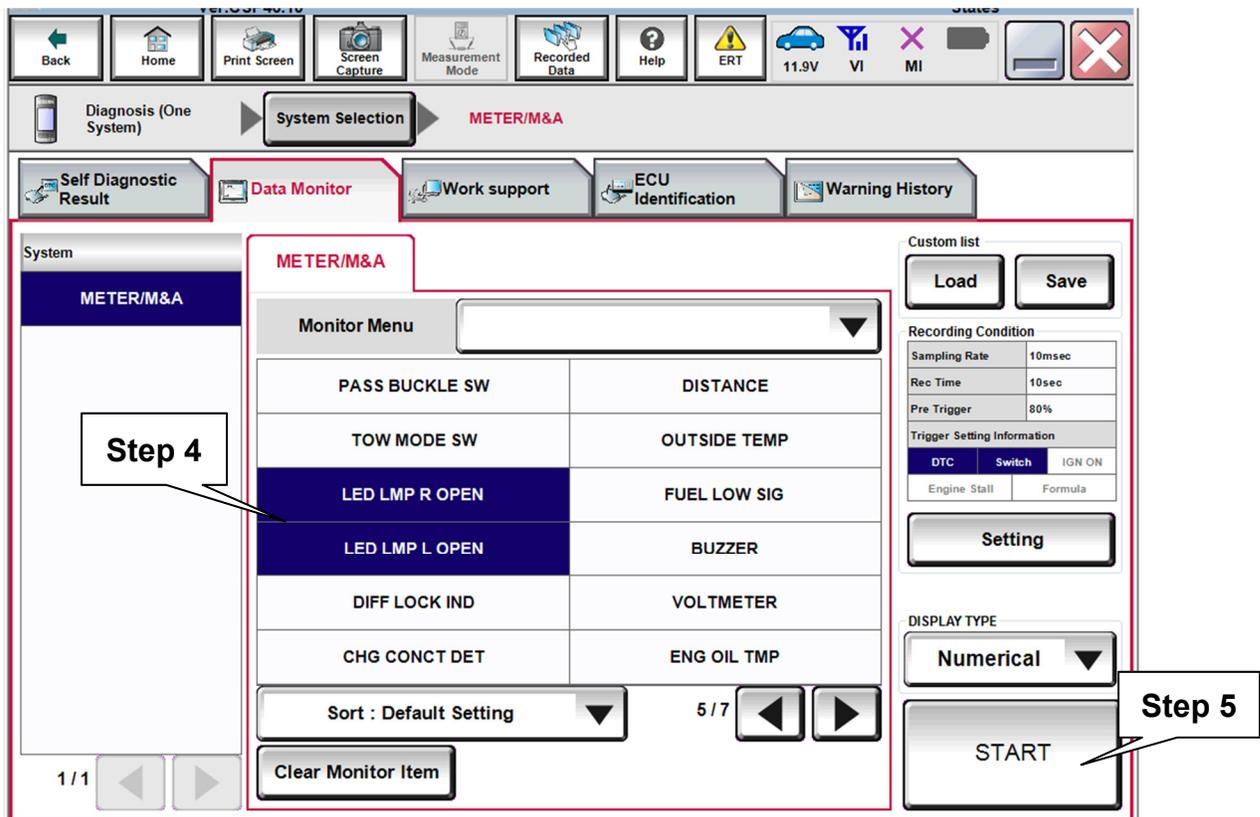

Figure 2
3. Navigate C-III plus to the screen shown in Figure 2.